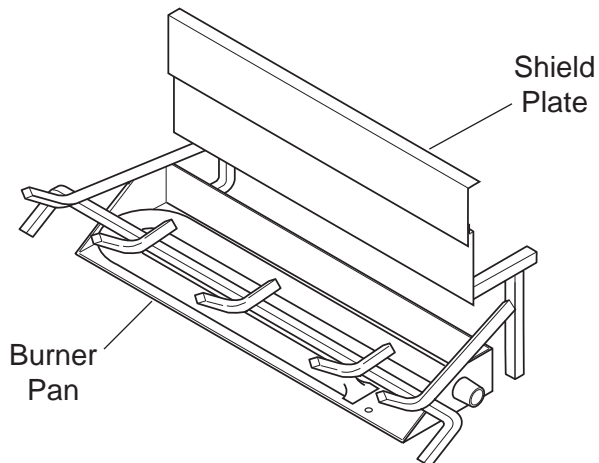

Figure 129 - Sliding Shield Plate Down Back of Burner Pan
1. Slide shield plate down back of burner pan. See *Figure 129*.